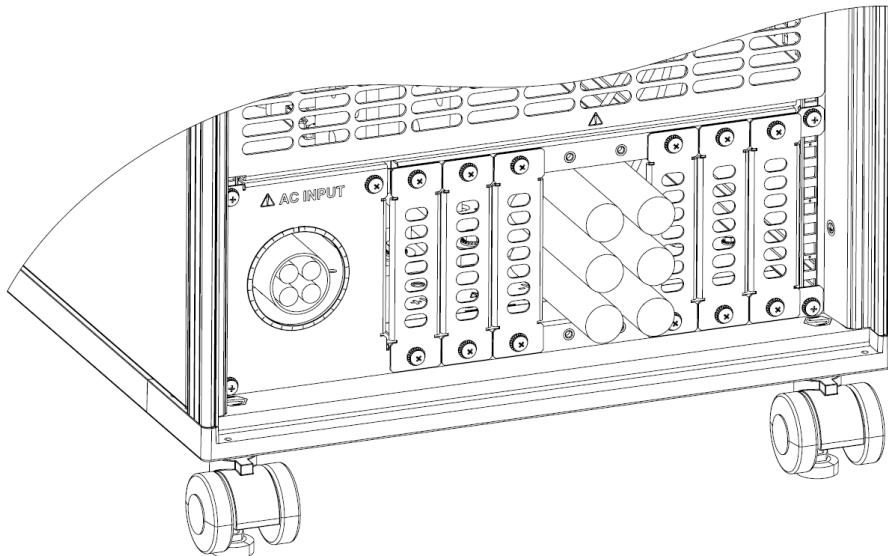

Figure 4-12: Assembly of Output Protection Slots
2. Assembly the output protection slots as shown in Figure 4-12.